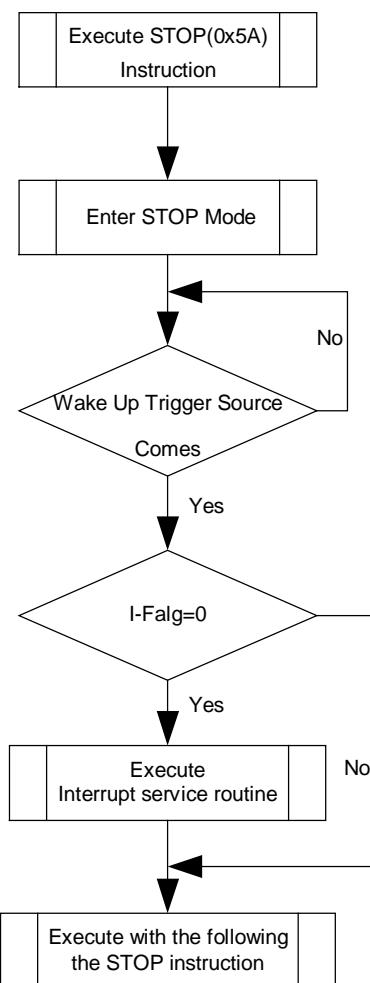

Figure 21-3 Release Flow From STOP Mode
After releasing from STOP mode, instruction execution is divided into two ways according to I-flag in status (P). If I-flag=0, the normal interrupt would be occurred. If I-flag=1, the chip will resume execution starting with the following the STOP instruction. In other words, MCU would not execute interrupt service routine. Detail release flow was shown in Figure 21-3.